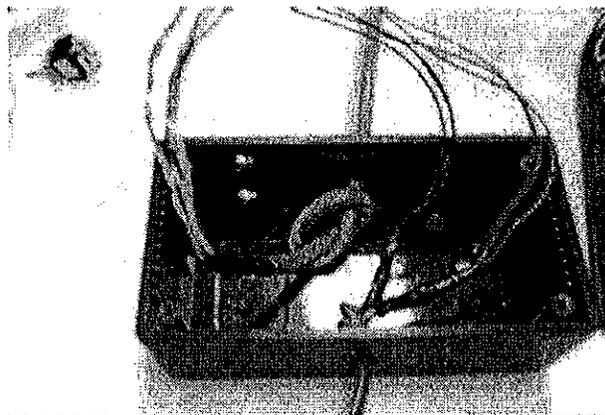

Figure 31: Cables in holes (see steps 3 & 4)
16. Pass the loose end of the power cable (no alligator clips) through the hole in the back of your control box. Tie a strain-relief knot about 6" (15cm) up the cord, inside the control box. (Fig. 31)